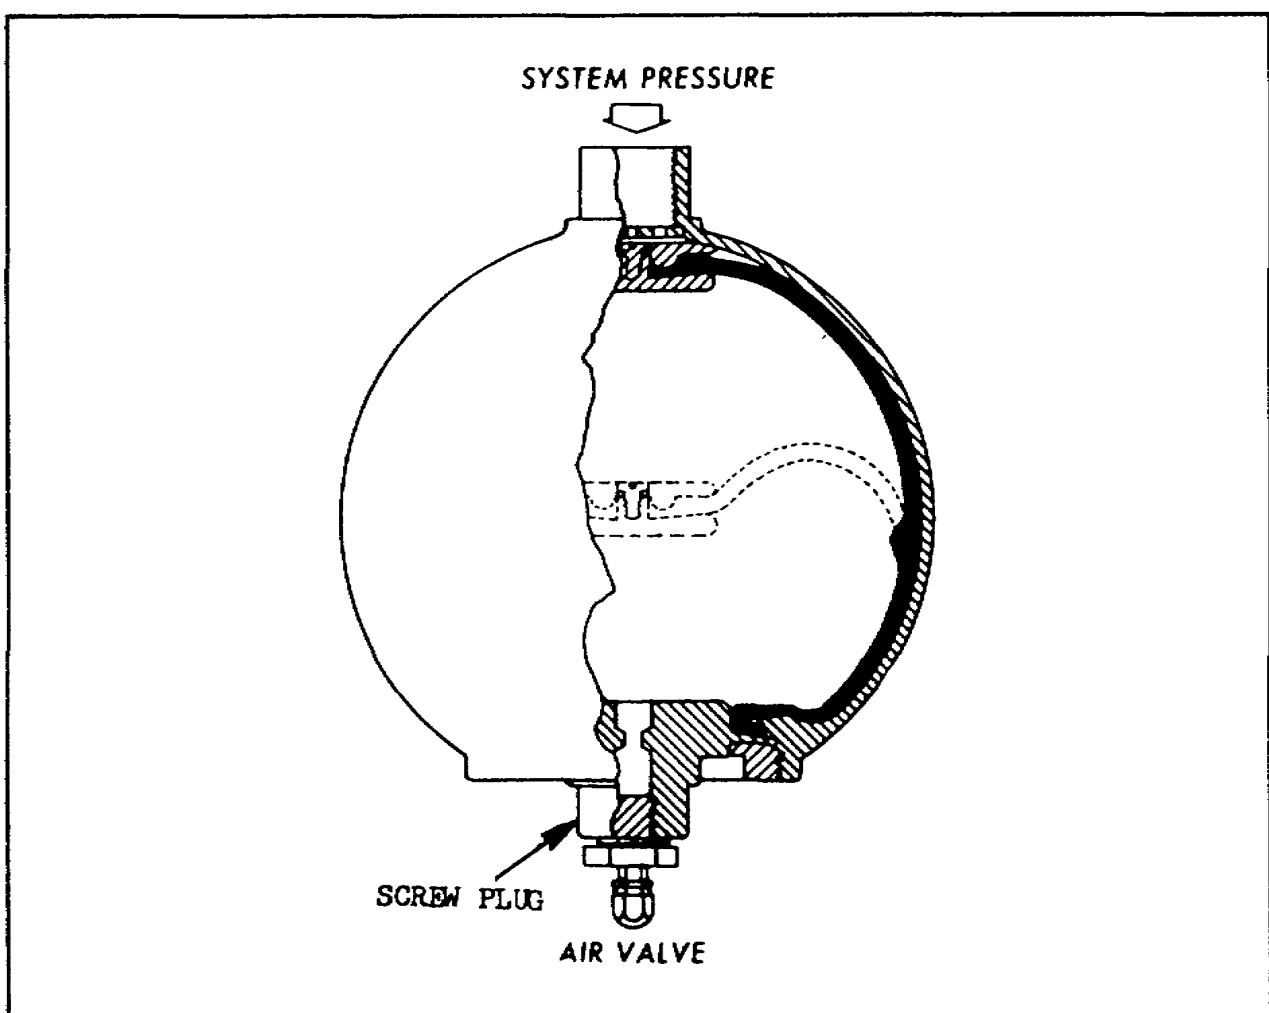

Figure 1-11. Bladder Accumulator.
**Bladder Accumulator.** The bladder accumulator operates on the same principle and for the same purpose as the diaphragm accumulator but varies in construction, as shown in Figure 1-11. The unit is a one-piece metal sphere with a fluid pressure inlet at the top and an opening at the bottom for inserting the bladder. A large screw-type plug at the bottom of the accumulator is a retainer for the bladder that also seals the unit. A high-pressure air valve is also incorporated in the retainer plug. Fluid enters through the system pressure port. As fluid pressure increases above the initial air charge of the accumulator, it forces the bladder downward against the air
charge, filling the upper chamber with fluid pressure. The broken lines in Figure 1-11 indicate the approximate position of the bladder at the time of the initial air charge.